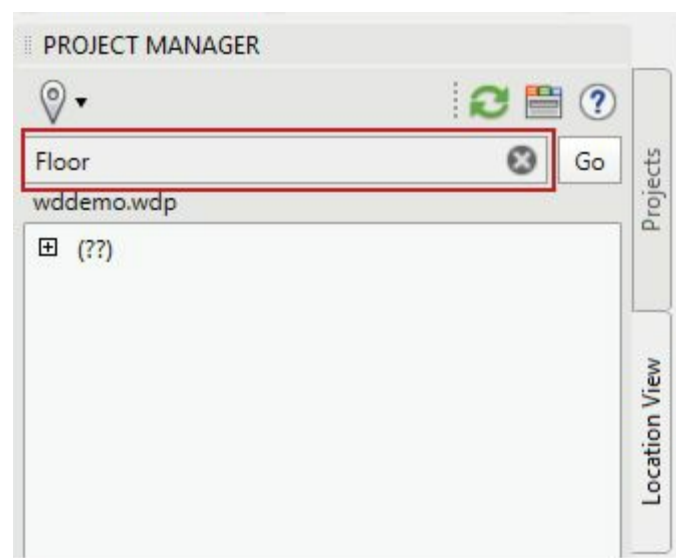

Figure-49. Search box for Location view tab
- Type the location code, installation code, component keyword in the type box for searching and click on the **Go** button next to the search box; refer to Figure-49.